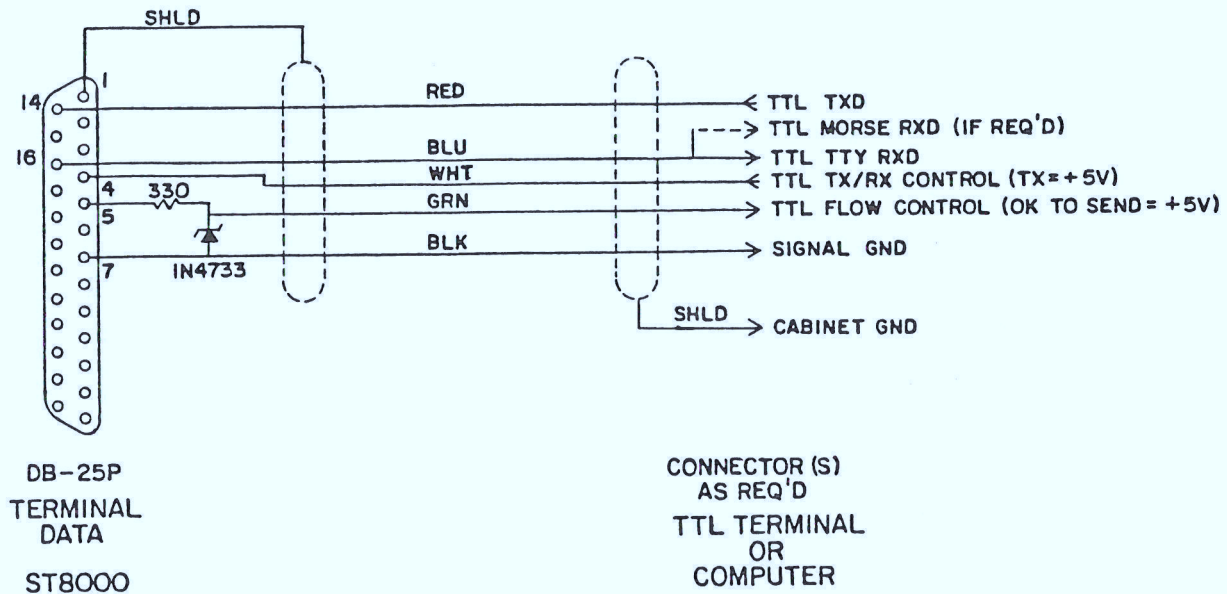

FIGURE 12. TTL TERMINAL CONNECTIONS
A direct TTL connection to a computer is also provided. Some computer software requires a direct TTL connection rather than using a RS232C serial I/O port. Pins 14 and 16 provide TXD and RXD TTL connections. In addition, the RS232C control signals may be used if attention is given to polarity and voltage levels. Two of these control signals are of particular interest - CTS and RTS. The RTS input (Request-To-Send) may be used as a TTL compatible transmit-receive control input if the convention of [+V = transmit] is observed. Receive condition may be either ground or -V. If the computer transmit-receive output is reverse polarity, use the Terminal KOS input instead of RTS (Ground = transmit, +V = receive). The CTS (Clear-To-Send) flow-control signal may likewise be used if required, but a protection zener diode should be included on the cable connections to limit the voltage swing from 0 to +5V (0V = inhibit keyboard data). Some computer software using TTL I/O provides separate received data inputs for RTTY and Morse code (CW). In this case, the two computer inputs should both be connected to the TTL RXD data output. Some computer software requires inverted receive data (RXD). Jumper location J1 can be used to set TTL RXD polarity to NORMAL (Mark = high) or REVERSE (Mark = low), as shown in Figure 6. A TTL Carrier Detect (CD) signal is provided on pin 21 (low = signal received). A typical TTL I/O connection to the ST8000 is show in Figure 12.